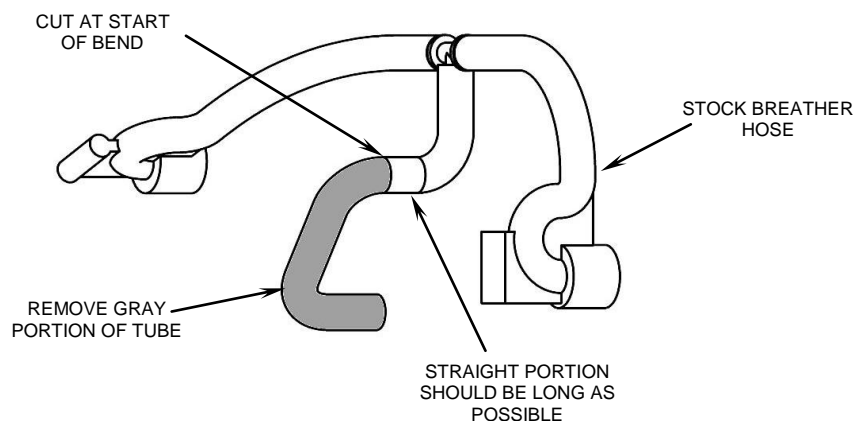

FIGURE 1
1. Remove the allen bolt from the center of the stock air cleaner and remove the cover. Remove the (3) bolts securing the filter to the throttle body and remove the filter and breather hose assembly. Save the stock breather hose assembly as this will be reused. Remove the two breather bolts from the cylinders and remove the back cover.
2. Cut off the end of the center breather hose as shown in **FIGURE 1**. Cut the tube near the start of the bend so that the straight portion is as long as possible.